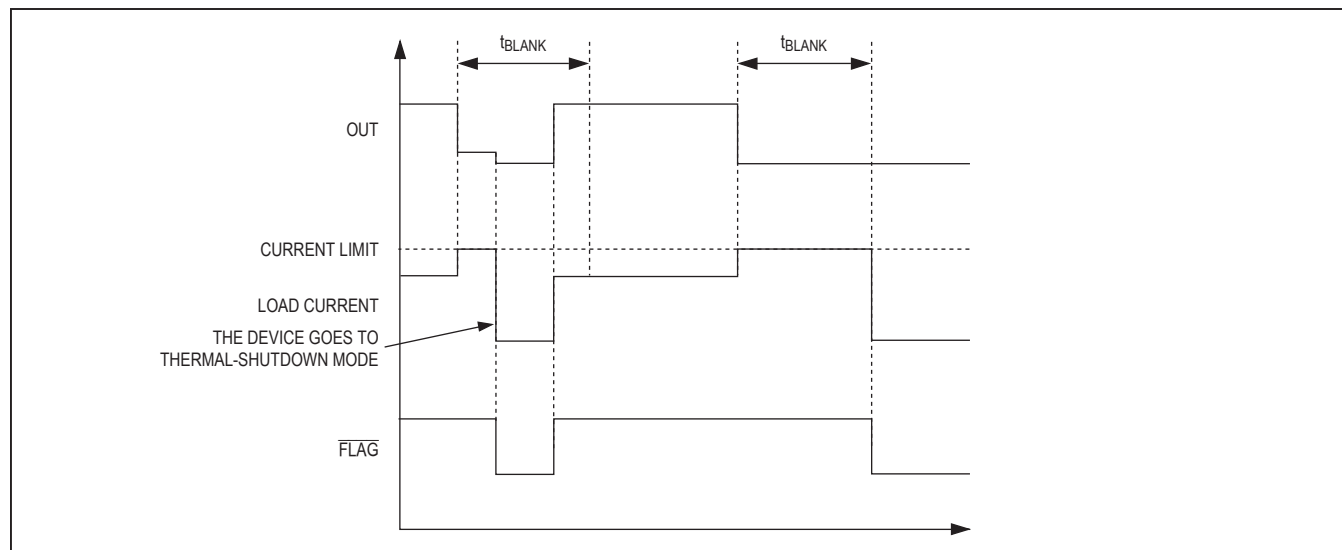

Figure 3. Latchoff Fault Diagram
When the forward current reaches the current-limit threshold, the  $t_{\text{BLANK}}$  timer begins counting (Figure 3).  $\overline{\text{FLAG}}$  asserts if an overcurrent-limit condition is present for greater than  $t_{\text{BLANK}}$  time. The timer resets if the overcurrent condition disappears before  $t_{\text{BLANK}}$  has elapsed. The switch turns off if the overcurrent condition continues beyond the blanking time. Reset the switch by either toggling the control logic (ON) or cycling the input voltage. If the thermal power rating of the package is exceeded during  $t_{\text{BLANK}}$ , the MAX4995B goes into thermal shutdown.